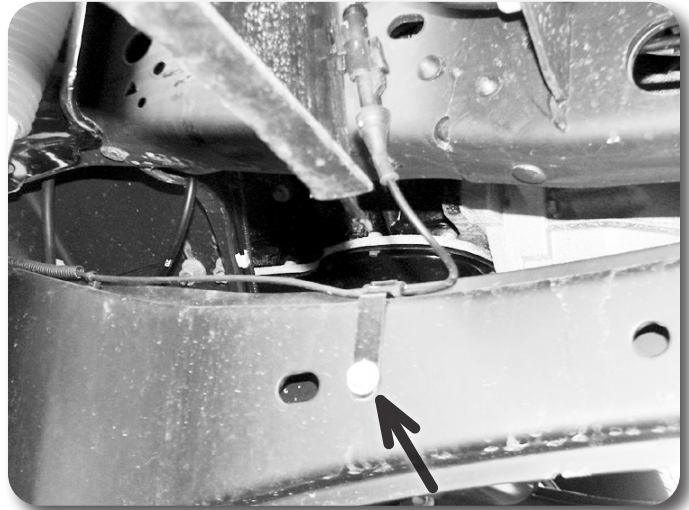
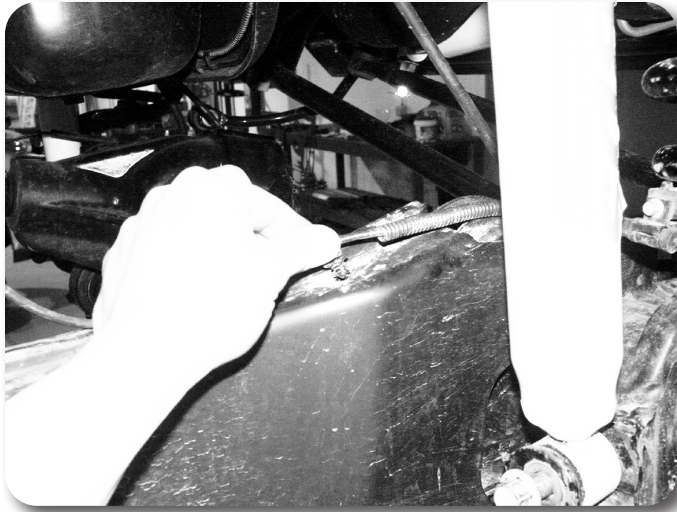

Figure 1
Figure 2
9. Remove the ABS line from the metal retaining tab on the radius arm (Fig 1). Pull the plastic retaining clip free from the radius arm (Fig 2).